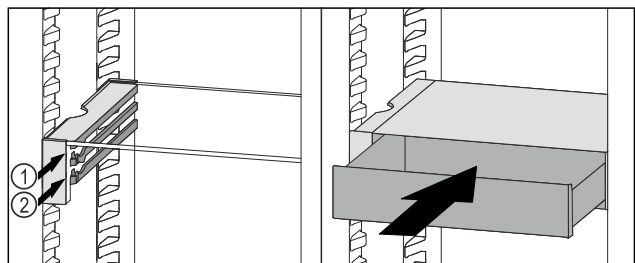

Fig. 103
- ▶ Place the VarioSafe drawer behind the stoppers on desired rib *Fig. 103 (1)* or *Fig. 103 (2)*.